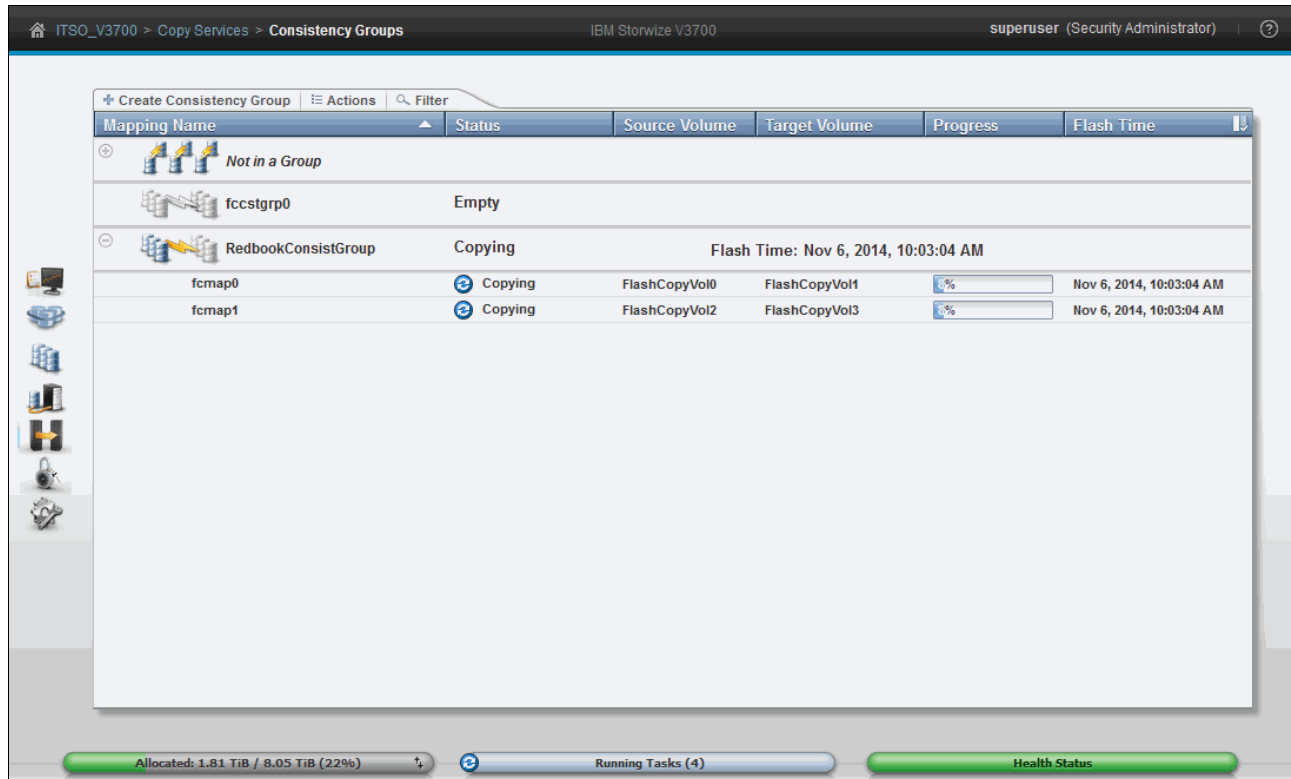

Figure 10-66 Creating FlashCopy reverse mapping
1. To restore a consistency group from a FlashCopy, you must create a reverse mapping of all of the individual volumes that are contained within the original consistency group. In this example, there are two FlashCopy mappings (fcmap0 and fcmap1) in a consistency group called RedbookConsistGroup, as shown in Figure 10-66. These mappings are both snapshots.
2. Click **New Consistency Group** in the upper left corner (as shown in Figure 10-66) and create a consistency group. In this example, we created a group called RedBookReverseConsistGroup.